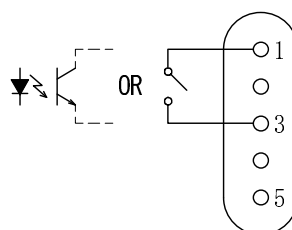

Figure 11 Interlock Control Procedure
3. The control procedure is shown in Figure 11
Connect the accessory Interlock Plug to the “Interlock Terminal ⑫” on the rear panel. Confirm that either the Interlock Plug 1-3 Pins are short-circuited or that interlock remote control signals (refer to Figure 11 Interlock Control Procedure) are input.